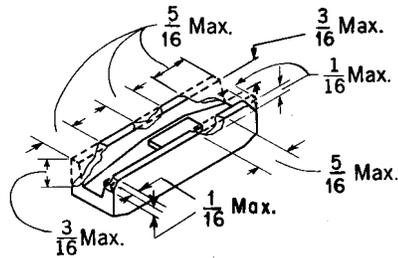

Fig. 2—Maximum Permissible Chips in Spring Groove Walls
- (a) Porcelain blocks which have chips in the porcelain of greater dimensions than those shown in Fig. 2 and 3. As shown in Fig. 2, all four spring groove wall corners may be chipped provided the two larger chips are on opposite ends of the block.